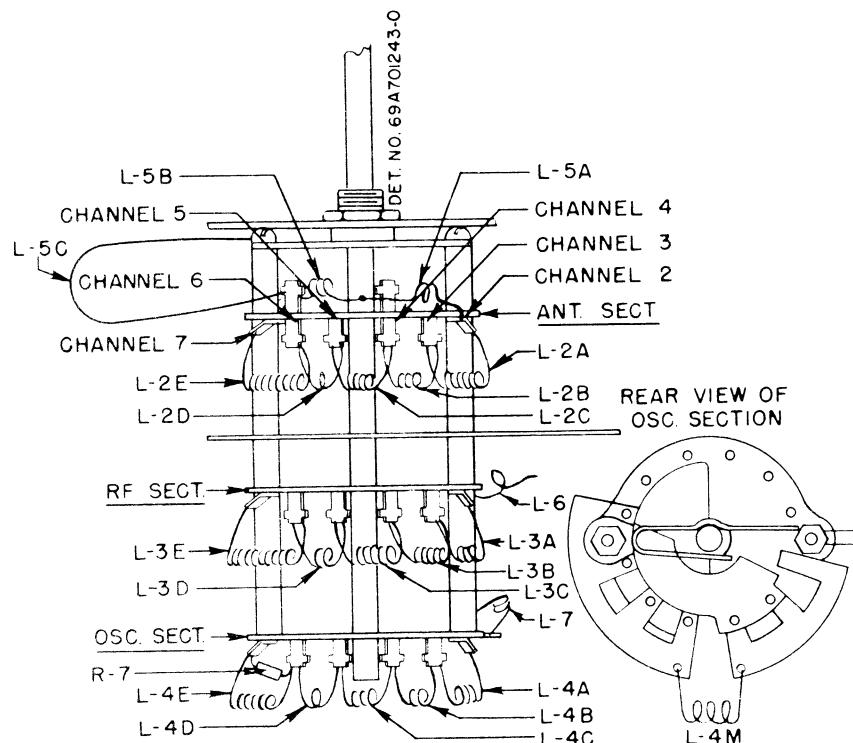

FIGURE 9. ANTENNA, RF AND OSCILLATOR COIL LOCATIONS
to Figure 9 for the locations of the antenna and RF coils. The frequency chart listed previously gives the channel and alignment frequencies.
9. Check channels 7 to 13 for proper response and, if necessary, tune the coil L-6. These coils may be tuned by spreading them to decrease inductance or compressing them to increase their inductance. See Figure 9 for location of coils. This will have more effect on channels 10 to 13 than 7 to 9. If L-6 is adjusted, it may be necessary to readjust RF trimmer C-6 and recheck the high channels.
11. Spread or compress the 3-turn coil located in the center of the oscillator plate (L-4M, Figure 9) so that the sound marker for channel 9 falls into the 27.3 mc trap dip in the response curve. As the os-
tor and generator to channel 9 and tune the 3-turn coil (L-4M, Figure 9) toward channel 10 (coil freq raised by spreading turns). This will also tend to move channel 9 sound marker out of the trap dip, but this can be compensated for by the fine tuning trimmer. Again, do not adjust the coil any more than is necessary to bring the channel in question back within the 30 degree requirement.
18. Adjust channel 6 oscillator coil (L-4E, Figure 9) so that the sound marker for channel 6 falls into the 21.9 mc trap dip with the fine tuning trimmer at mid-capacity (shaft slot in horizontal position). Always spread or compress channel 6 oscillator coil in units of 3 turns. Compressing turns will move curve toward sound marker, while spreading will move curve toward video marker.